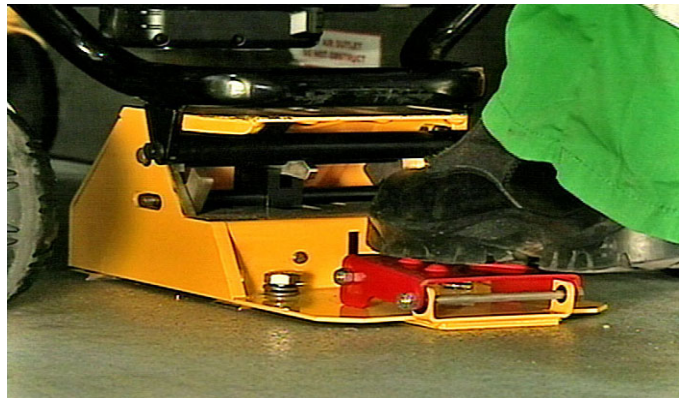

Figure 18 - Remove cot
2. Roll the cot out of the patient compartment as shown in Figure 18.